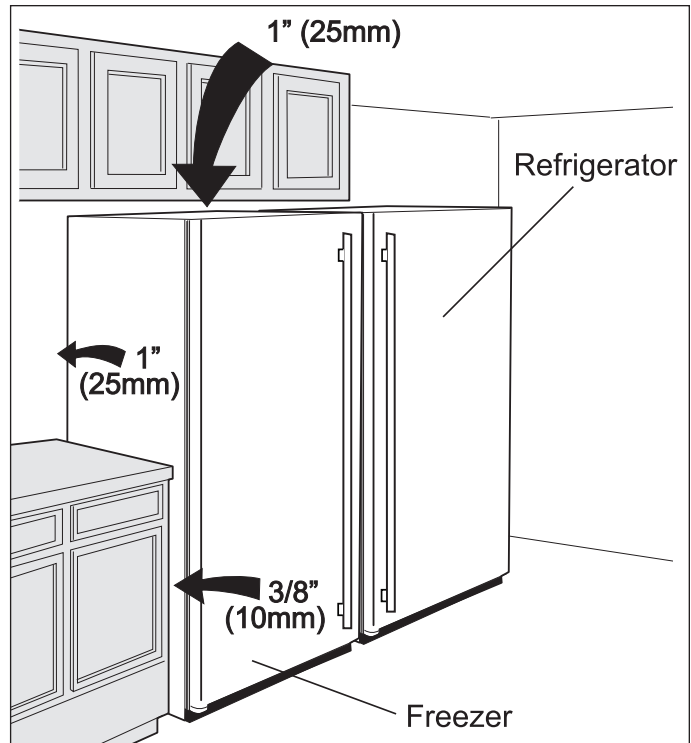

Figure 2-1. Installation Clearances
6. For ease of installation, proper air circulation and electrical connections, see Figure 2-1 for recommended clearances.